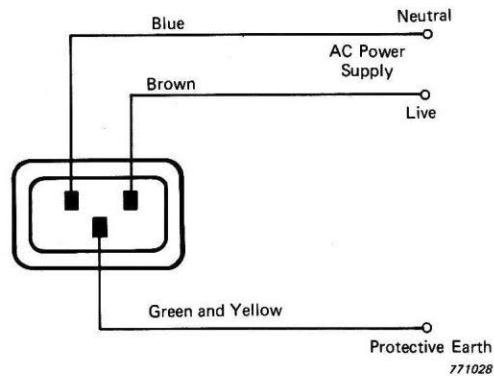
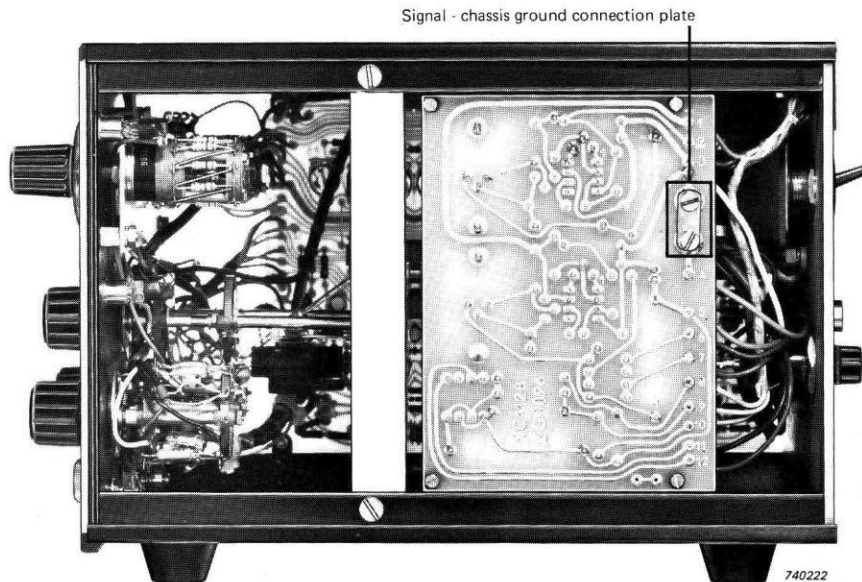

Fig.3.1. Connection of mains supply to POWER INPUT socket
Fig.3.2. Signal ground-chassis ground connection on 2650
The 2650 may be powered from any 100 to 240V (50 to 400Hz) single phase AC mains supply - no voltage setting adjustments are required. To fit a suitable mains plug to the power cable AN 0010 provided, see Fig.3.1. For maximum operating safety, the protective (green/yellow) conductor of the power cable should be connected to the protective earth contact of a mains socket outlet. The use of extension cables without protective conductor should be avoided.
The 2650 is delivered with its signal ground connected to chassis. To disconnect signal ground from chassis, as might be necessary to conform with the above grounding requirements, remove the connection plate shown in Fig.3.2. This is located on the print board immediately behind the right side panel of the 2650. Before attempting to remove the panel or change the signal ground chassis connection, disconnect the 2650 from the mains supply. To connect chassis to mains ground see Fig.3.1.
3. Connect the POWER INPUT socket to a suitable mains supply, set the POWER SWITCH to "On" and wait a few minutes for the 2650 to warm up. If the POWER INPUT socket is not connected to mains ground (see Fig.3.1), ground the chassis of the 2650 by connecting its CHASSIS socket to a suitable earth e.g. water pipe.